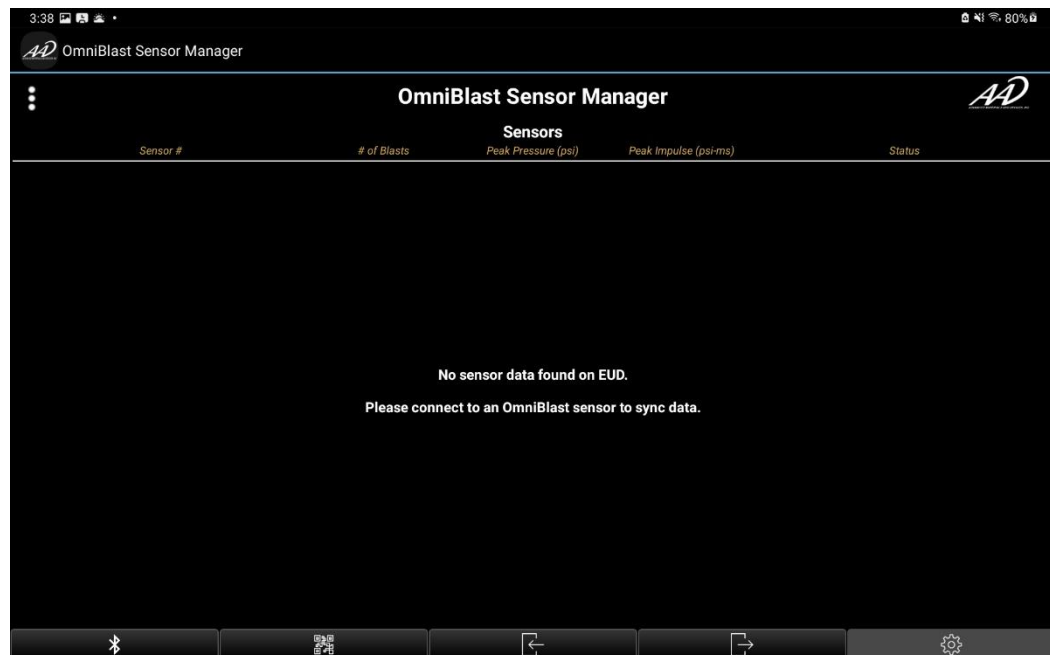

Figure 6. Main page of the OSM on a new installation.
- c. Once downloaded, open the OSM and the main page will appear (**Figure 6**).